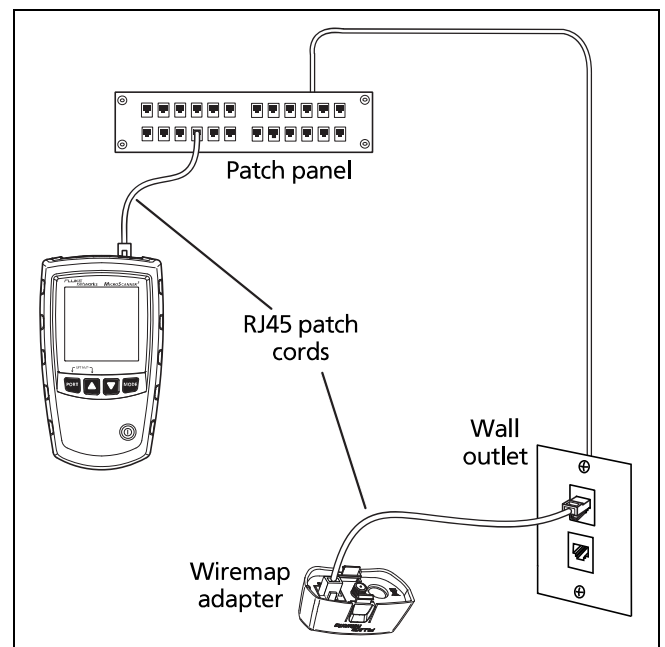

Figure 7. Connecting to Twisted Pair Network Cabling
- 2 Connect the tester and wiremap adapter or ID locator to the cabling as shown in Figures 7 through 21.